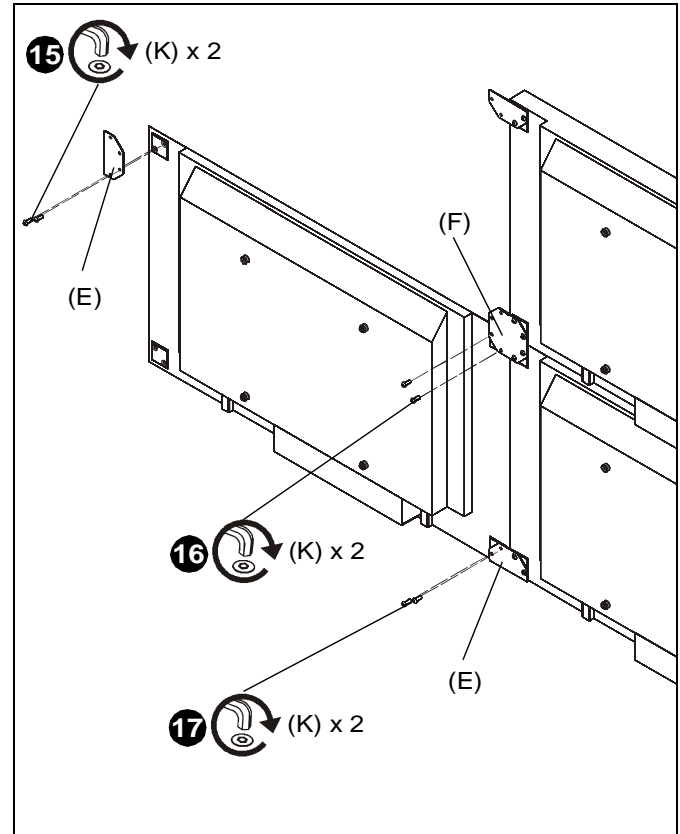

Figure 12
15. Install two M4 x 16mm security screws (K) through holes of edge attachment bracket (E) and into upper right holes of lower right display. (See Figure 12)
16. Install two M4 x 16mm security screws (K) through holes of middle attachment bracket (F) and into upper left holes of lower right display. (See Figure 12)
17. Install two M4 x 16mm security screws (K) through holes of edge attachment bracket (E) and into lower left holes of lower right display. (See Figure 12)